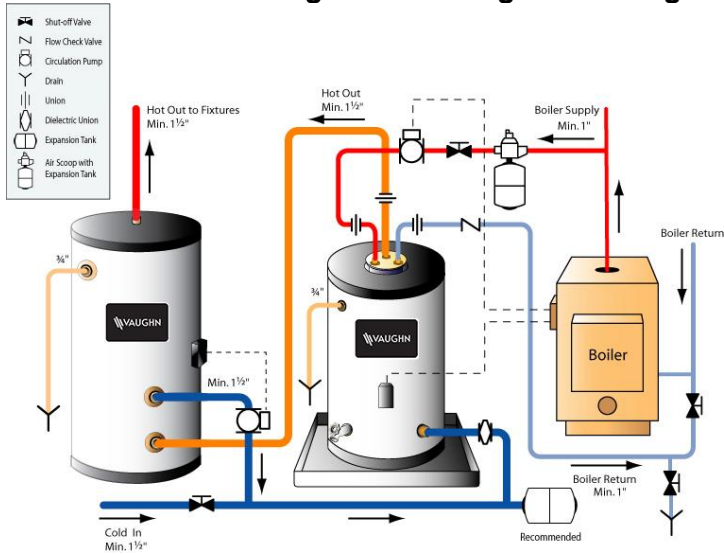

FIGURE 5
- ❑ **WARNING: Plastic O-ring housing must be properly installed. (See FIGURE 5 on page 22) Failure to do this will void the warranty.**
- ❑ **WARNING: Plastic O-ring housing must be installed properly (See FIGURE 5 on page 22) to prevent corrosive action. Failure to do this will void the warranty. Must use new O-ring if replaced or removed.**